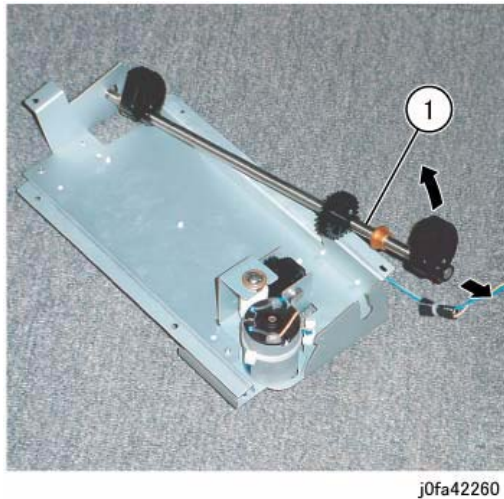

Figure 9 Removing the Stacker Shaft Assembly (j0fa42260)
13. Remove the Stacker Shaft Assembly. (Figure 9)